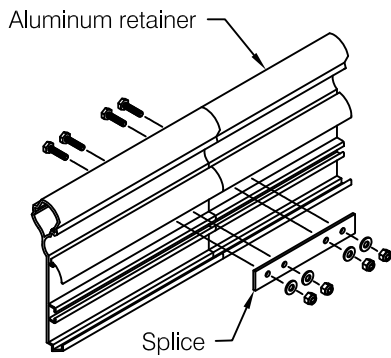

fig 6
- A minimum of 4 inches from end of retainer at splices to avoid interference with splice hardware (shown in **fig. 6**)
**Step 9** Refer to **fig. 6** for splicing of retainer as required on longer handrail lengths. Always locate splice joints a minimum of 4 inches from bracket locations to allow for clearance of splice hardware. For best results offset butt joints in cover, accent strip, and bumper guard from splice in retainer.